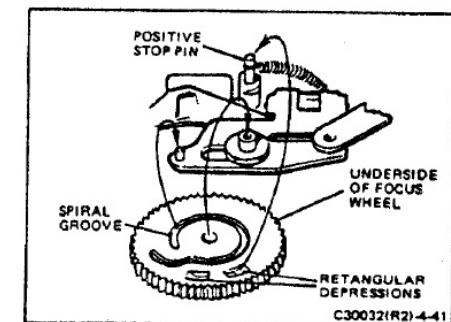

FIGURE 4-41 FOCUS WHEEL CONFIGURATION
- c. Examine the underside of the focus wheel. Note two rectangular depressions and a spiral groove (Figure 4-41). One depression is positioned closer to the end of the groove. When the focus wheel is positioned on the follower, the positive stop pin must engage the rectangular depression farthest from the groove. The pin of the cam follower must engage the spiral groove. Install the wheel so these conditions are satisfied.